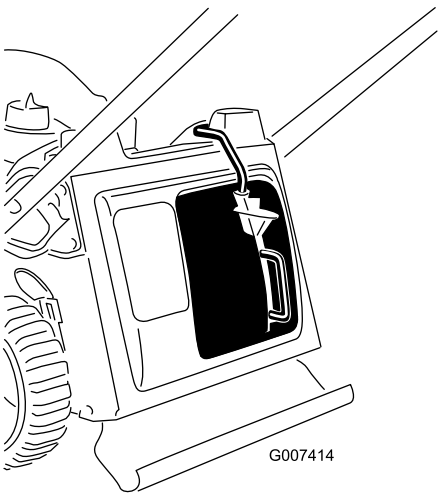

Figure 9
3. Release the button on the lever and ensure that the top of the lever lies fully in the switch channel (Figure 9). **If the top of the lever is not in the switch channel, your machine will not start.**